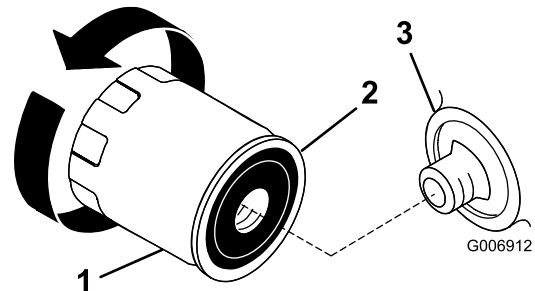

Figure 33
2. Remove the old oil filter, and wipe the filter adapter (Figure 33) gasket surface.
3. Apply a thin coat of new oil to the rubber gasket on the new oil filter (Figure 33).
5. Turn the oil filter clockwise until the rubber gasket contacts the filter adapter, then tighten the oil filter an additional 1/2 to 3/4 turn (Figure 33).